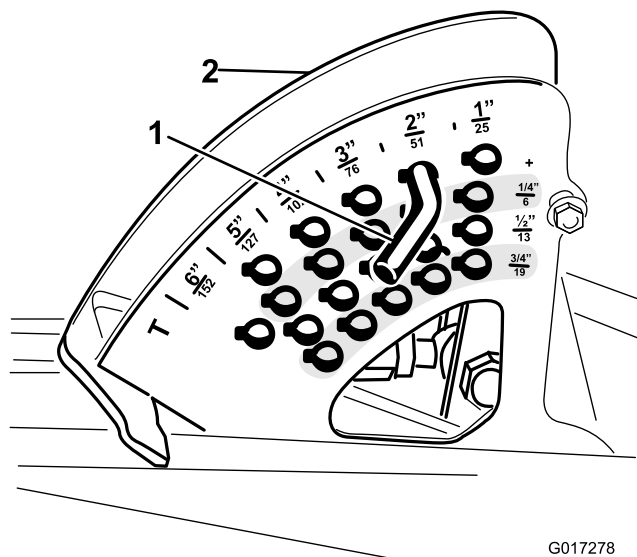

Figure 2
3. Note the location of the height-of-cut pin in the height-of-cut bracket (Figure 2), and remove the height-of-cut pin from the height-of-cut bracket.